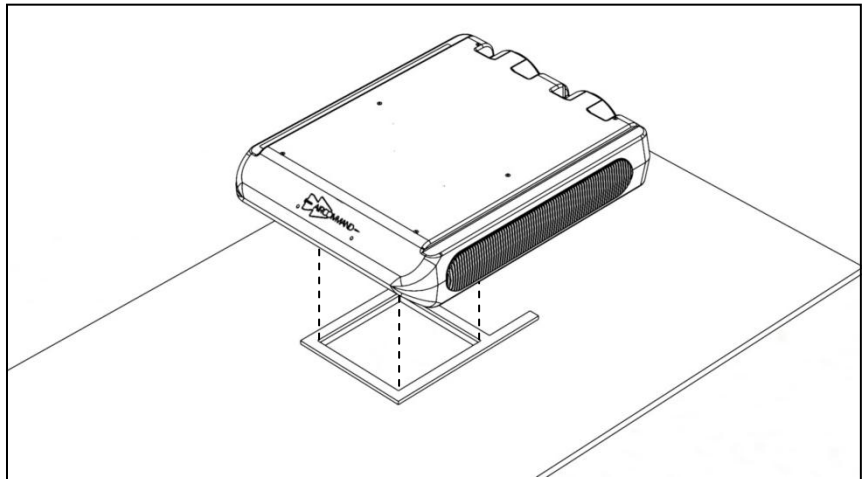

Fig 6: Position the IBIS over the roof gasket and set it down gently
- Position the unit over the gasket so that the corners of the square hole in the caravan roof line up with the corners of the square hole underneath the IBIS (Fig 6).